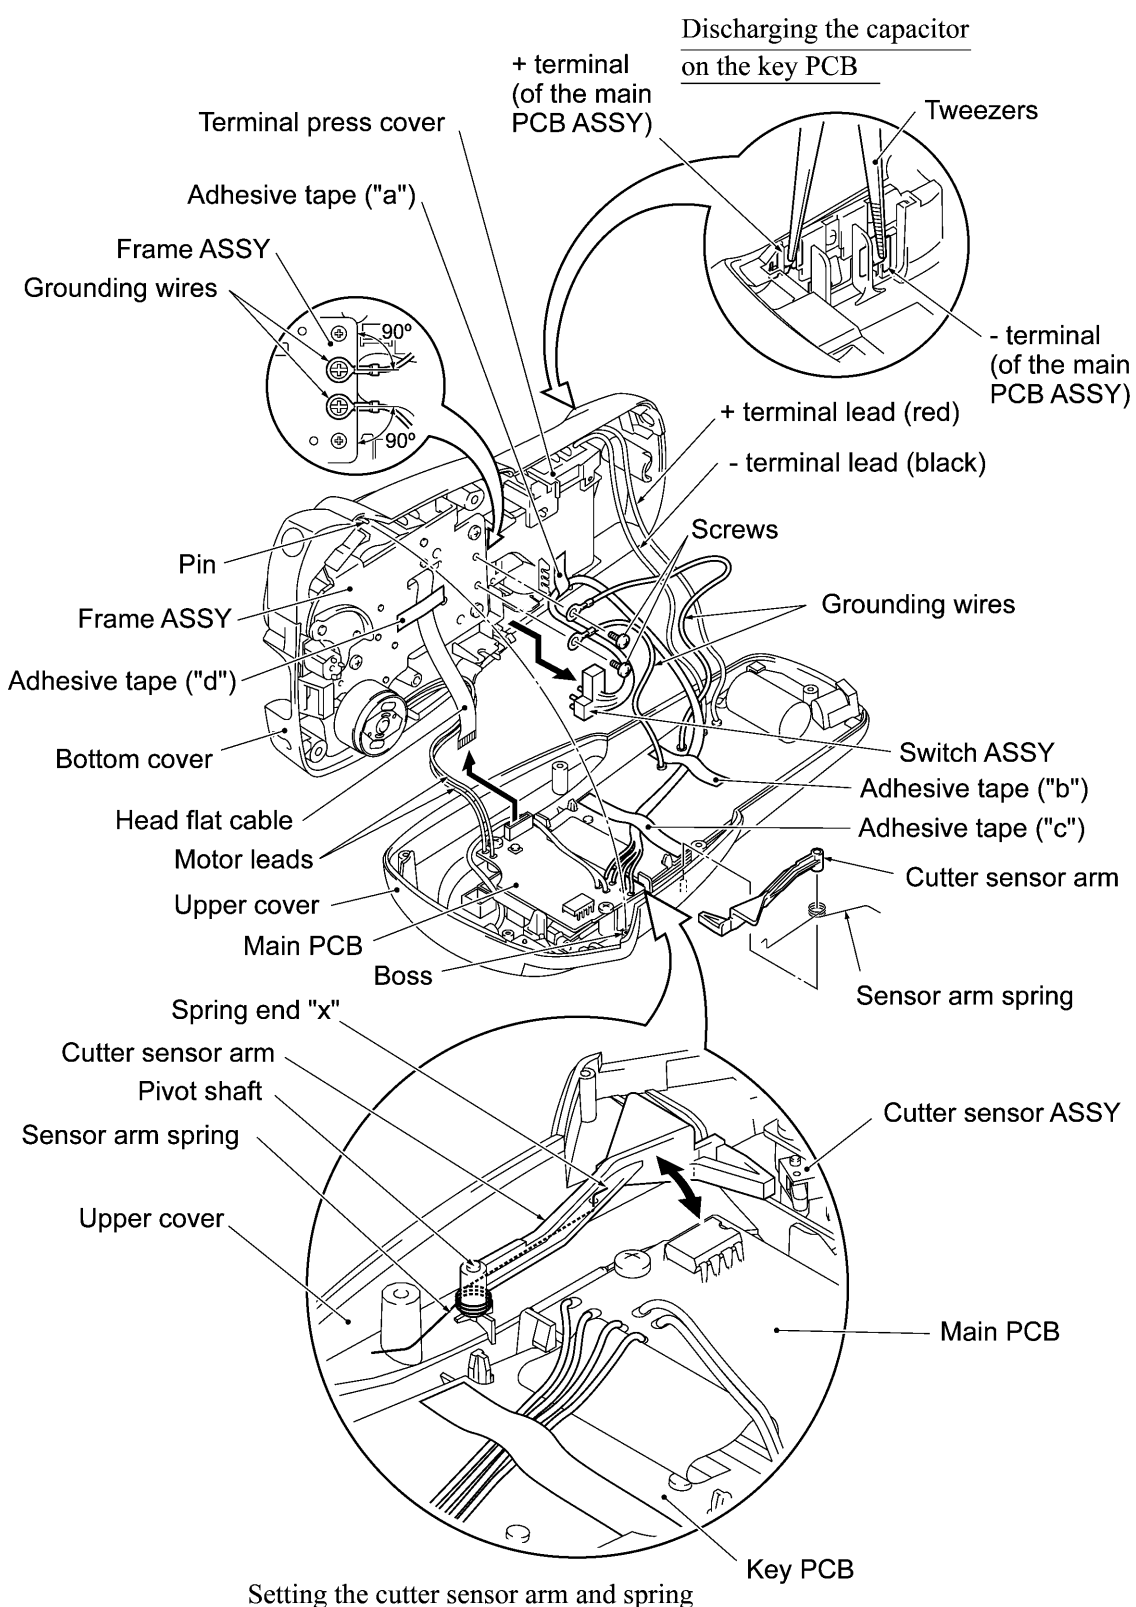

Figure 3.1-4 Separating the Bottom Cover from the Upper Cover
- (3) Discharge the capacitor mounted on the main PCB by touching both the + and - terminals (of the main PCB ASSY) with a tweezers. (See Figure 3.1-4 on the next page.)
- (4) Open the bottom cover and disconnect the head flat cable from the main PCB.
- (5) Remove the cutter sensor arm and its spring from the upper cover.
- (6) Release the two grounding wires (that ground the key PCB) from the frame ASSY by removing the two screws.
- (7) Remove the adhesive tape ("a") that secures the switch ASSY leads to the bottom cover. Then unhook the switch ASSY (cassette sensor switches) from the three latches and take it out of the bottom cover.
- (8) To separate the bottom cover from the upper cover completely, you need to unsolder the motor leads from the main PCB (refer to "[3] Removing the Frame ASSY and Cutter Lever") and remove the + and - terminal ASSYs from the bottom cover (refer to "[4] Removing the Terminal Press Cover and Releasing the - Terminal ASSY").
- When setting the cutter sensor arm and its spring back to the upper cover, first insert spring end "x" into the hole provided in the cutter sensor arm and then fit them over the pivot shaft as shown in Figure 3.1-4. Check that the cutter sensor arm moves smoothly.